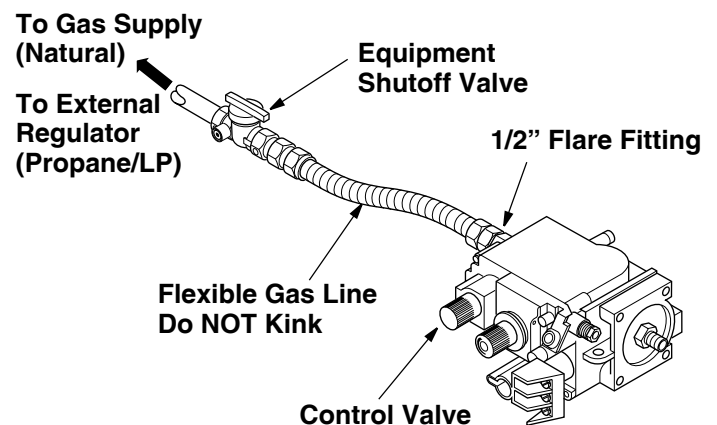

Figure 49 - Connecting Flexible Gas Line to Millivolt Valve
3. Attach flexible gas line from gas supply to the 1/2" flare fitting provided on the control valve (see **Figure 49**).